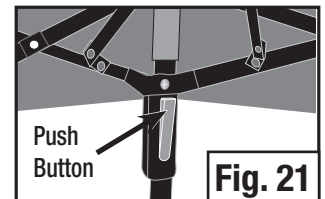

Fig. 21
- Press the push buttons found at upper corners of the frame. (Fig. 21) Collapse shelter frame and store in carry bag.